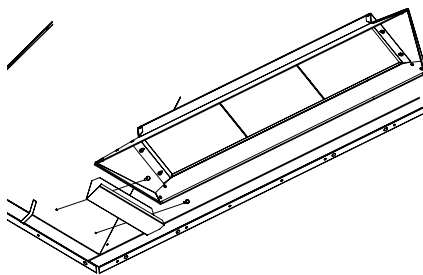

Figure 28 - Installing PureFire Hood
3. Using screws provided, secure the bracket to the inner dome of the fireplace as shown in Figure 28. The left and right bracket are different. The edge that is straight will be closer to the fireplace opening.
4. Lift hood up into the fireplace and place it on the retaining brackets (Figure 28). The rear of the hood will be touching the rear of the fireplace.